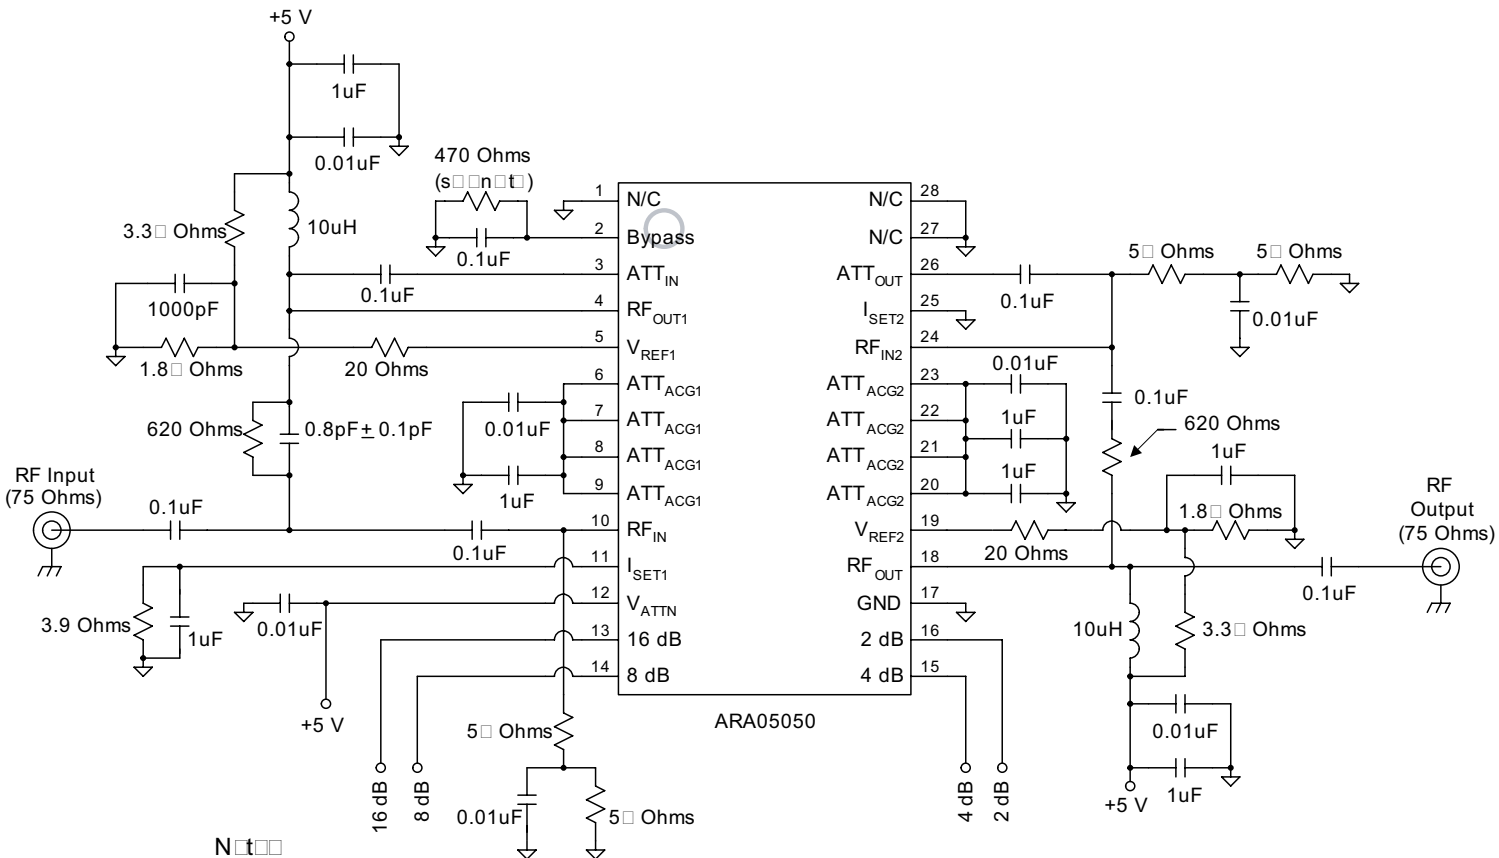

Figure 4: Test Circuit
(1) Specification applies when 470 Ohm resistor is connected from pin 2 to ground (see test circuit in Figure 4).
The I_{SET} pins (11 and 25) set the bias current for the amplification stages. Grounding these pins results in the maximum possible current. By placing a resistor from the pin to ground, the current can be reduced. The recommended bias conditions use the configuration shown in the test circuit schematic in **Figure 4**.